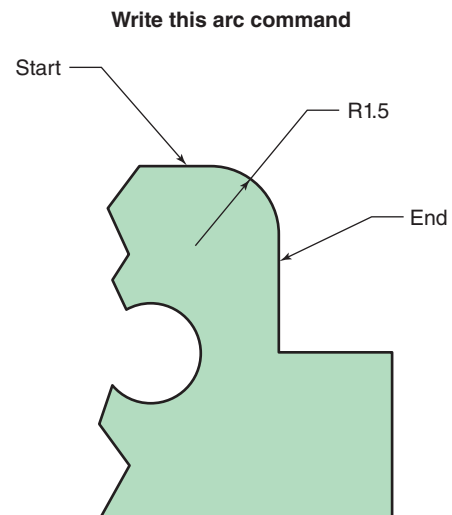

Figure 24-35 Problem 36. Write these arc commands.
36. You are in G17 on a vertical CNC mill. Write a part path, *IJK* method (center ID) command block for the arc of Fig. 24-35. Then write the same arc command using the radius method. (22)
37. To initiate cutter radius compensation, what considerations must be (22)
38. How are *fixed cycles* used? What is another shop term for these programming tools? (23)
39. Safety question. What is the singular danger of using the threading cycle on a CNC lathe/turning center as compared to all other fixed cycles? (23)
40. Is this statement true or false? A bolt circle is a threaded fastener that is bent into a round shape. If it is false, what will make it true? (23)
41. With respect to fixed cycles, define the following CNC terms: *departure point*, *parameter*, and *tiled routines*. (23)